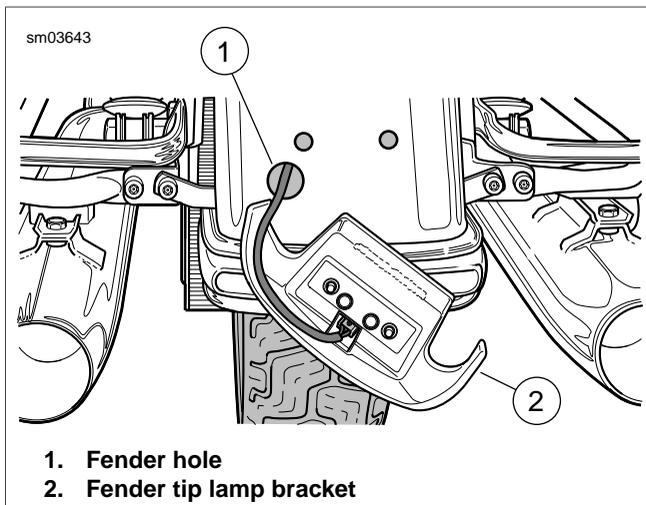

Figure 8-45. Feed Fender Tip Lamp Socket and Conduit Through Fender Hole
8. Draw conduit and socket housing out through bottom fender hole. See Figure 8-45.
4. Feed socket housing and conduit through bottom fender hole. See Figure 8-45.